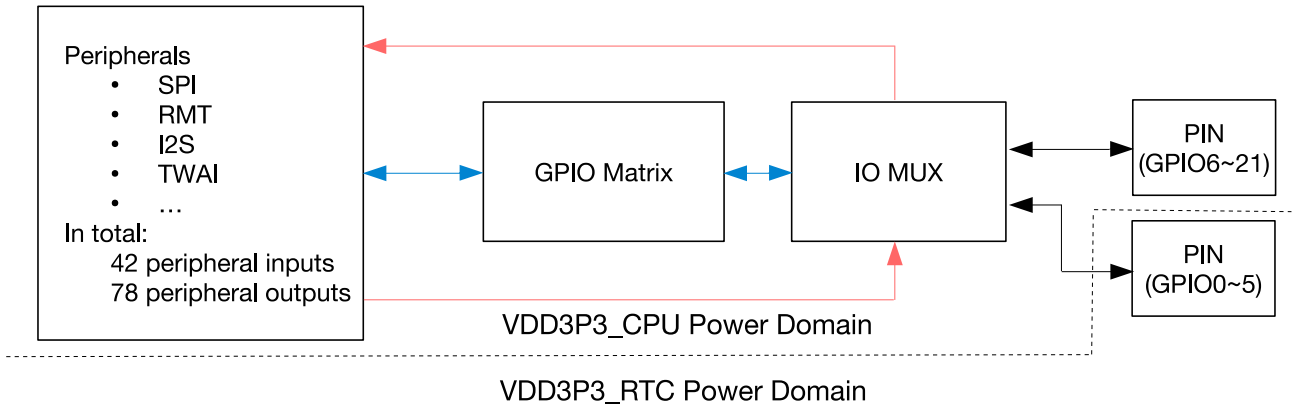

Figure 5.3-1. Diagram of IO MUX and GPIO Matrix
- Figure 5.3-1 shows the general work flow of IO MUX and GPIO matrix.